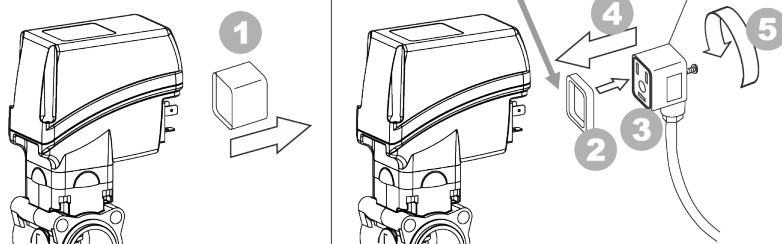

Fig. 8
- All valve connectors must be provided with seals before being connected (Fig. 8).